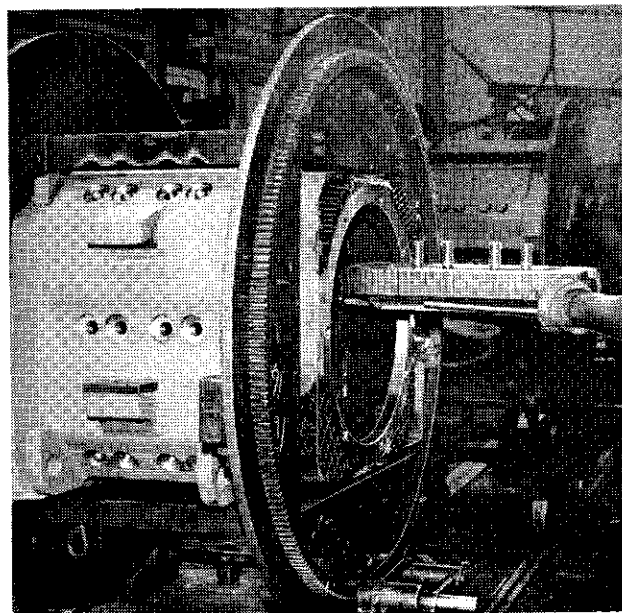

Fig. 7 — Main Coil Being Placed Into Frame
4. Index frame fixture so that location for No. 1 coil assembly is at top position. Using lifting fixture 8285824, position No. 1 coil on fixture and move assembly into frame with coil leads facing the pinion end, see Fig. 7. Align studs of coil assembly with holes in frame and raise coil. Apply nuts and lockwasher to pole studs and tighten nuts in sequence 1, 4, 2, 3, starting from commutator end stud. Remove lifting fixture.